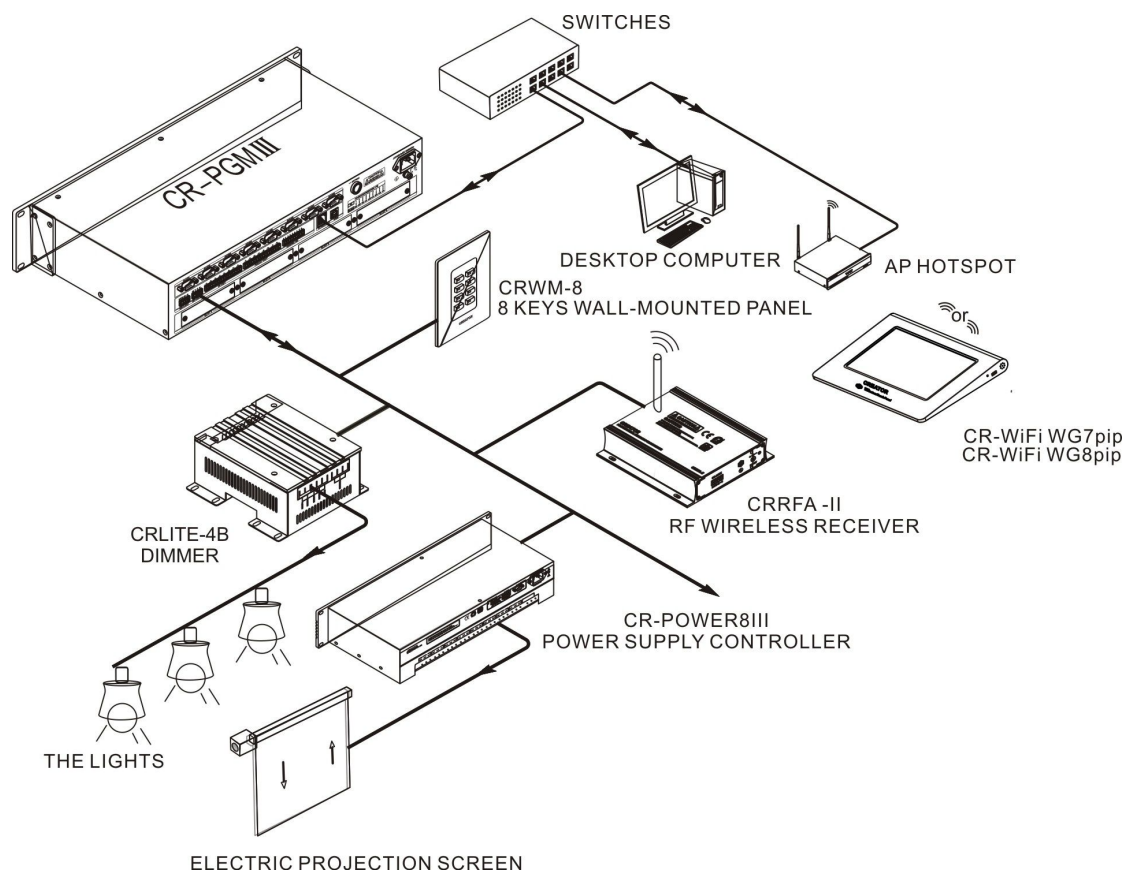

Figure 2-31
② Double-click any blank place on the screen (i.e. no control) will pop-up prompt information.
3.When the touch screen is set on the charging base or connected to external power, it will pop up a message, as shown in figure 2-31: